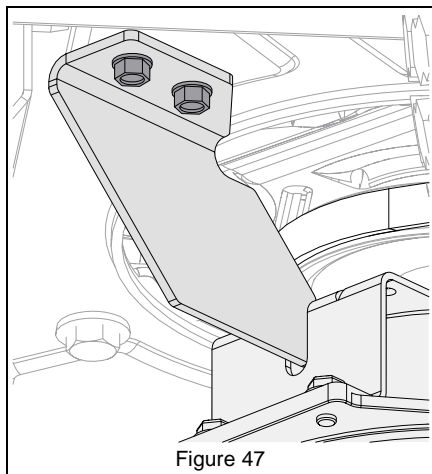

Figure 47
4. Reinstall clutch stop bracket and secure with original hardware. See Figure 47.